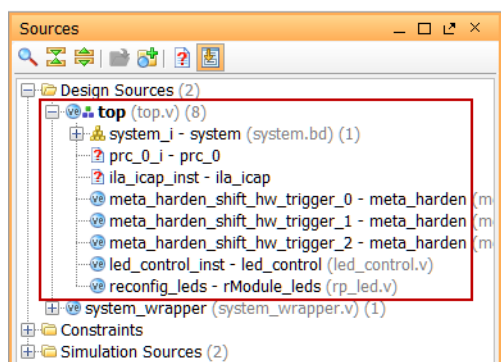

Figure 4. The design hierarchy including the processor system and other top-level modules
- Once the wrapper file is generated, the script will add the provided *top.v* and rest of the modules for the static design. The design hierarchy will look like as shown in Figure 4.